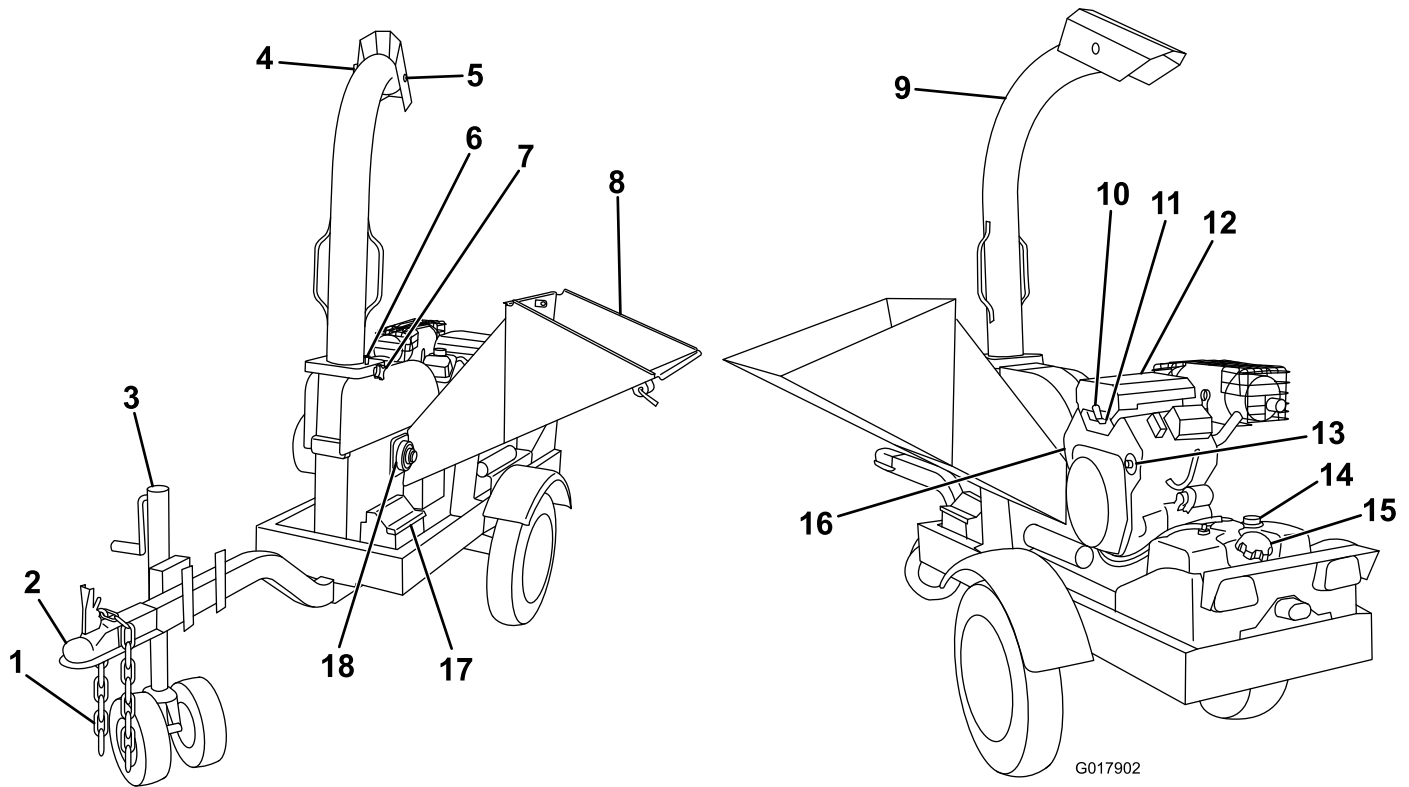

Figure 3
1. Raise hopper and lock it in the up position. Rotate the chute toward the rear of the machine, lock it in position with the chute locking pin and tighten chute locking knob (Figure 3).